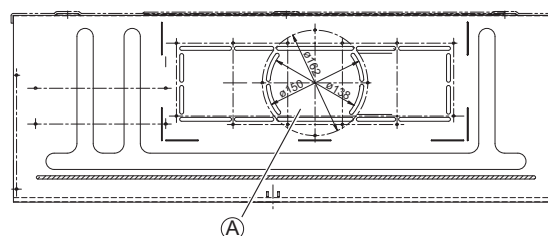

Fig. 2-180
- (4) If the system requires fresh air to be drawn into the unit, cut and remove the insulation (both externally and internally) at the location shown as (A) in Fig. 2-180.